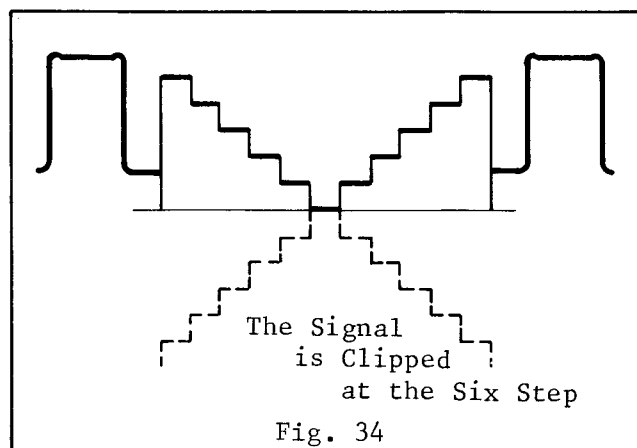

Fig. 34
3. Adjust the gamma reference voltage control, VR307, so that the signal is clipped at the six step from the bottom as shown in Fig. 34.
4. Then, connect the oscilloscope to the connector P306-pin (1) and observe the NTSC signal at H. rate. Trigger the oscilloscope with test point TP608.